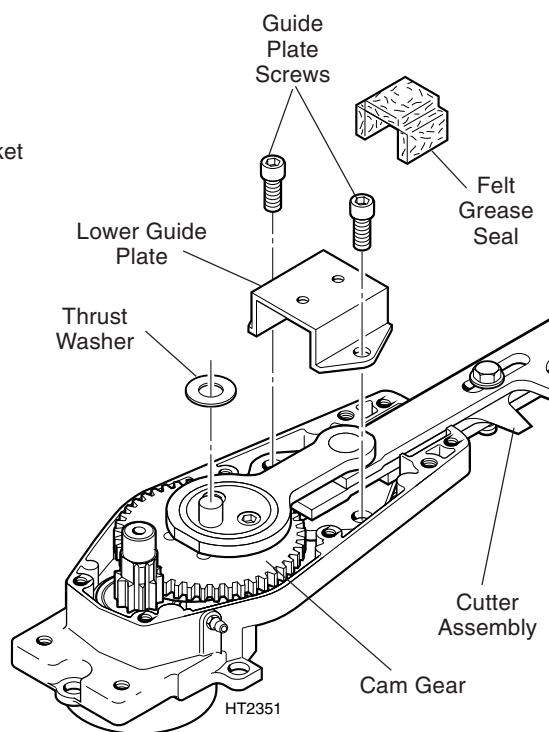

Figure 14. Grease seal and lower guide plate removal.
STEP 3. Lift out the felt grease seal. Unscrew the two 6mm x 12mm guide plate retaining screws, and then remove the lower guide plate (Figure 14).
STEP 4. Remove and retain the thrust washer from the cam gear (Figure 14).